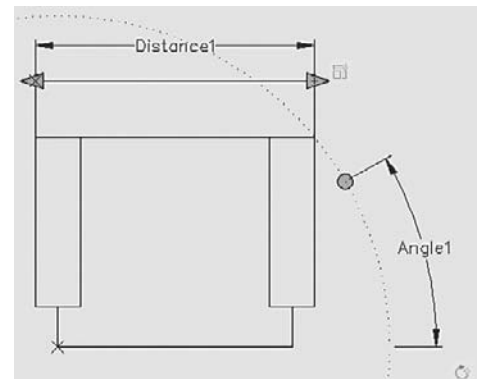

FIGURE 7.12
- Step 3.** Now, you can add actions associated with those parameters. Pick the Actions tab and pick scale. Then, select the Parameter and the Objects (the chair), as prompted. Repeat the same steps for the rotation. The result is shown in Figure 7.12. Notice the new (faded) scale and rotate symbols.